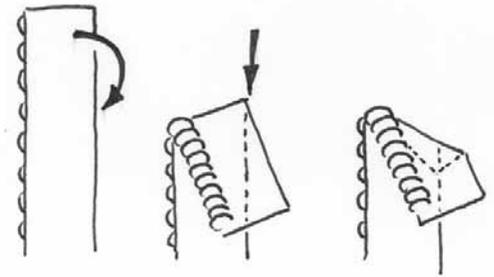

Figure 13
- When pinning and sewing the zipper, fold this extra length at the stop position as shown in **Figure 13**. Slow down as you sew over the coil to give the machine's needle a chance to slip in between the coils.